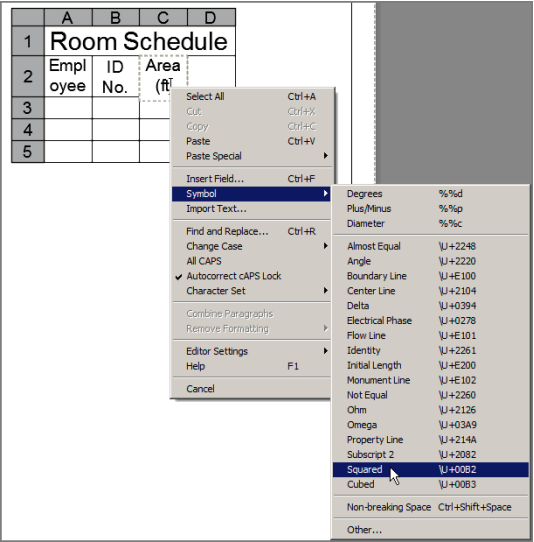

FIGURE 15.19 Accessing the symbol for squared
12. Right-click to open the context menu. Select **Symbol > Squared** as shown in Figure 15.19. Type **)** and press Tab. Now the column header indicates an area in square feet (or square meters). Click outside the table on the layout to deactivate it.